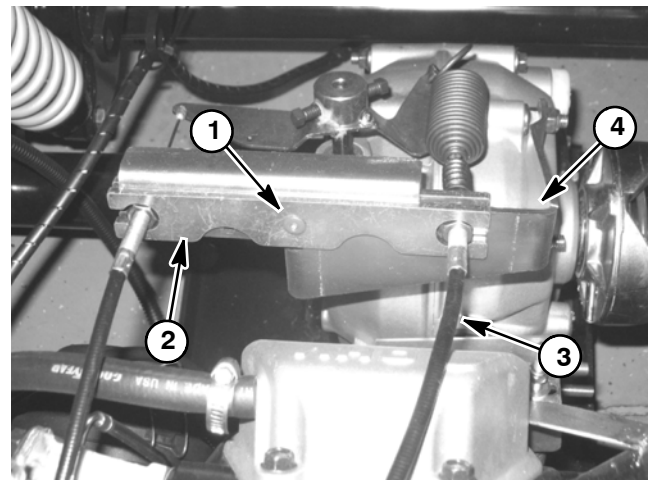

Figure 9
6. If ground speed adjustment is necessary, drill out anodized rivet and retain anti-tamper bracket for reinstallation (Fig. 9).
7. Adjust throttle cable (accelerator pedal to transaxle) at the cable bracket until the correct driven clutch RPM is obtained with the accelerator pedal fully to the floor (Fig. 9).
8. Install anti-tamper bracket to the cable bracket using a new anodized rivet (Toro P/N 99-7122) (Fig. 9).